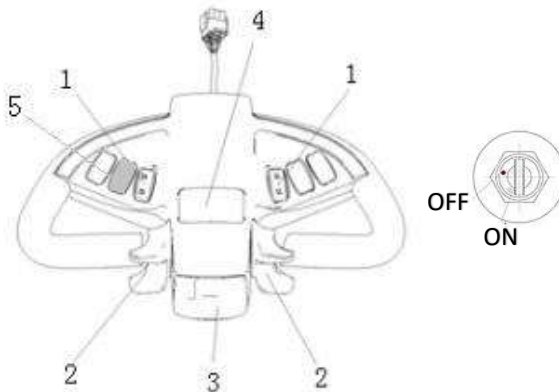

Fig. 6: Tiller operating controls & Key switch
- Press the horn button (4) in Fig.6 to activate the audible warning signal.